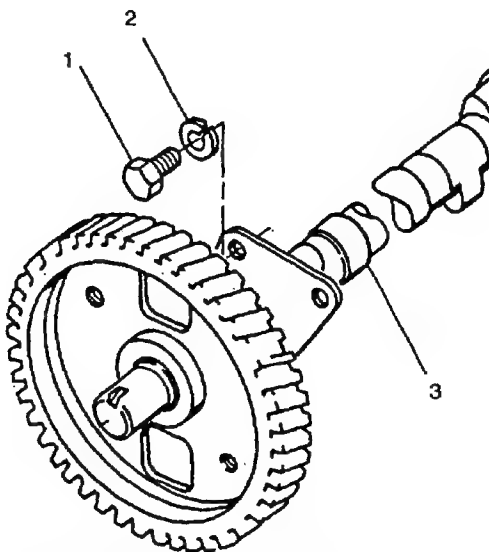

FIGURE 3-34. Camshaft Assembly
- e. Rotate camshaft until large holes in gear line up with two capscrews (1, FIGURE 3-34).
- f. Remove two capscrews (1) and lockwashers (2) securing thrust plate to crankcase; remove camshaft (3) from crankcase keeping it square at all times. Discard lockwashers.
- a. Carefully install camshaft (3, **FIGURE 3-34**) into crankcase keeping it square at all times. Take care to line up 'O' timing marks on crankshaft and camshaft gears exactly.
- b. Rotate camshaft (3) until large holes in gear line up with bolt holes in thrust plate.
- c. Turn thrust plate as necessary to install two capscrews (1) and new lockwashers (2). Tighten capscrews (1) to 75-80 in-lbs (8.4 to 9.0 Nm).
- (1) Push camshaft towards flywheel end.
- (2) Install a dial indicator in position against gear wheel.
- (3) Zero the dial indicator.
- (4) Move camshaft as far as it will go towards gear end. Movement recorded on the dial indicator should be 0.004 to 0.011 in. (0.10 to 0.28 mm)